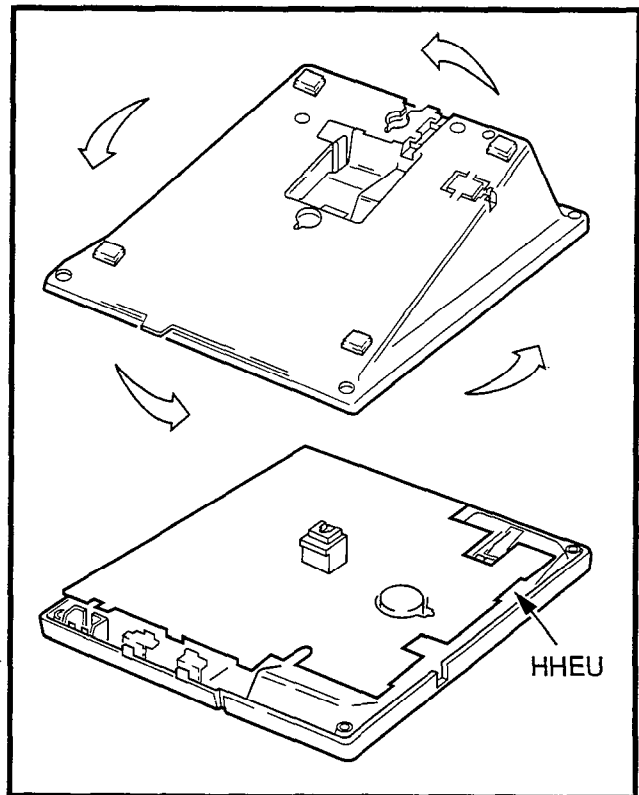

FIGURE 4-26—INSTALLATION OF MOUNTING BASE FOR WALL-MOUNT INSTALLATION
5.14 Rotate the mounting base 180° and secure to the telephone with the four captive screws (Figure 4-26).